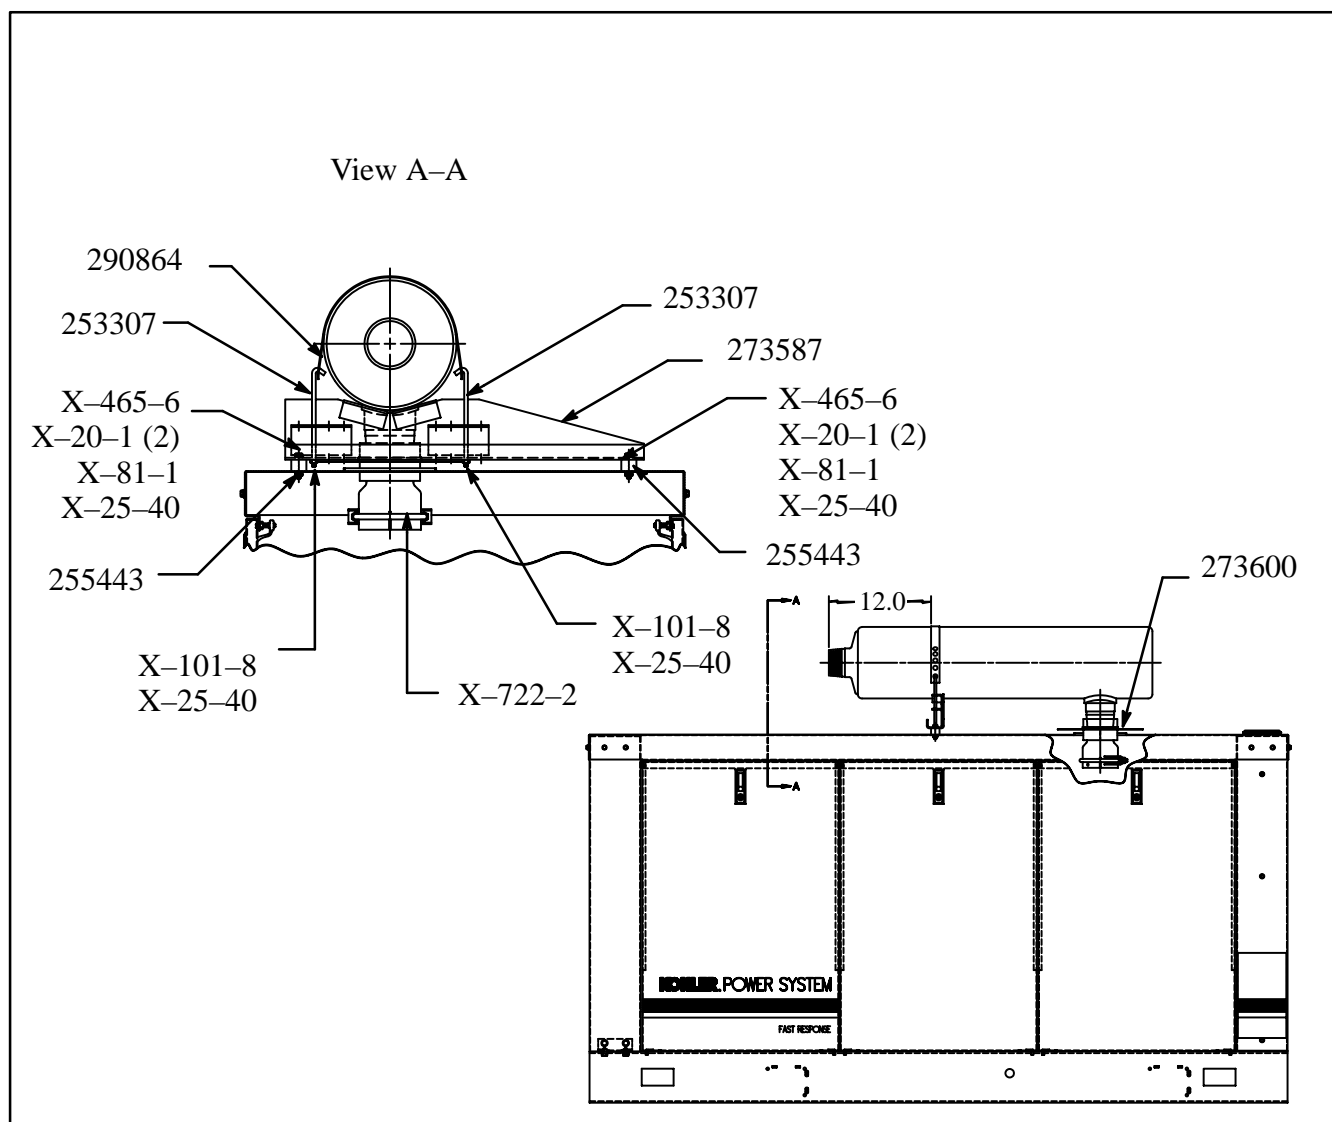

Figure 1. Silencer Mounting
The Silencer Mounting Kit is intended for installation on a housed generator set. Silencer Mounting Kits do not include silencers. Refer to the installation instructions and follow all safety precautions when assembling. See Figure 1 and Parts Listing for identification and location of parts.
4. Align silencer inlet end over engine exhaust manifold, do not secure. Place silencer bracket (273587) underneath silencer and position it approximately 12 inches (305 mm) from end of silencer outlet, see Figure 1.